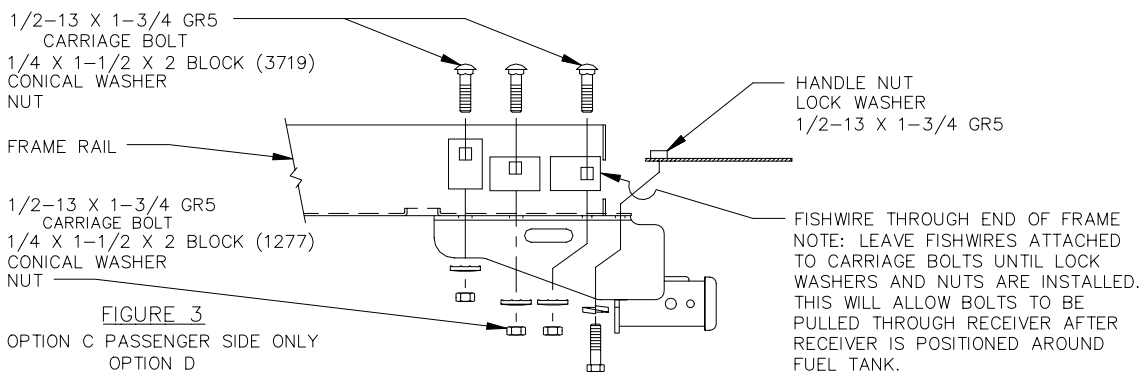

FIGURE 3
- A. REMOVE TOW HOOK AND TOW HOOK BRACKET; RETURN COMPONENTS TO VEHICLE OWNER. MOUNT DRIVER'S SIDE OF RECEIVER USING M12 BOLTS AS SHOWN IN FIGURE 1. MOUNT PASSENGER SIDE OF RECEIVER AS SHOWN IN FIGURE 3.
OPTION D - SEE FIGURE 3
- A. FISHWIRE 1/4 X 1-1/2 X 2 BLOCKS (1277 & 3719) AND 1/2 X 1-3/4 GR5 CARRIAGE BOLTS THROUGH END OF FRAME AND INTO EXISTING HOLES. RAISE HITCH INTO POSITION AND ATTACH PER FIG. 3.